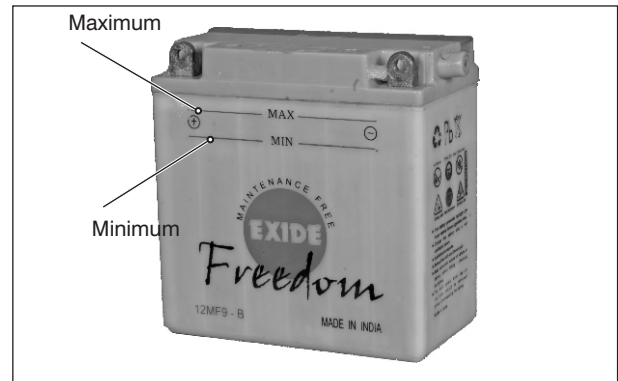

Fig. 2.108
- Add distilled water as necessary, to ensure the electrolyte is above the minimum level line but not above the maximum level line. (Fig. 2.108)